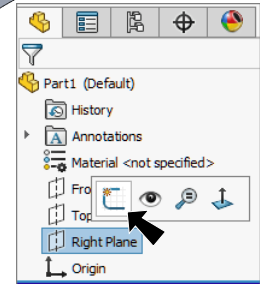

Fig. 1
Step 2. Click **Right Plane**  in the Feature Manager and click **Sketch**  on the context toolbar, **Fig. 1**.